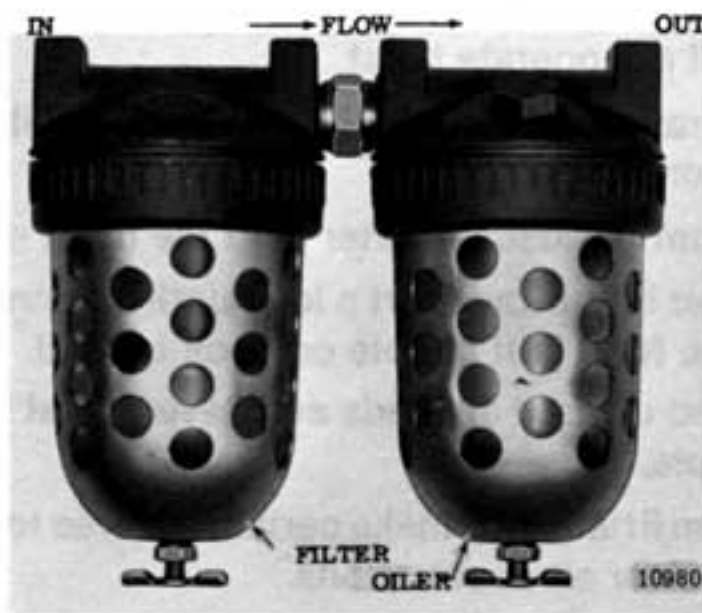

Figure 2-2. Air Filter and Lubricator Unit.
- c. A filter and lubricator unit (Figure 2-2) must be installed between air source and air hose leading to hoist. These keep air flowing to hoist free of dirt and add lubricant to air so internal parts of motor are constantly lubricated. Use a good grade of spindle oil, approximate viscosity 180 ssu at 100° F., air powered tool oil, or S.A.E. 10W machine oil. CM distributors can provide filter-lubricator units.